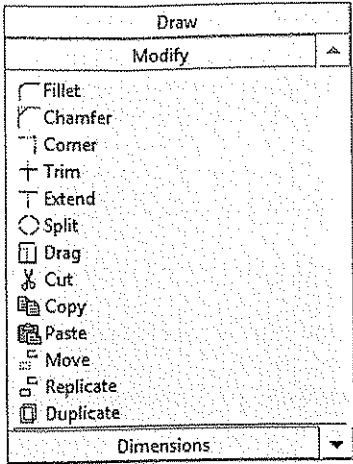

Figure 3-87 Tools in the Modify toolbox
14. Scroll down the **Modify** toolbox to display other tools, refer Figure 3-87. Next, choose the **Offset** tool from the **Modify** toolbox; you are prompted to select the line or arc to offset.